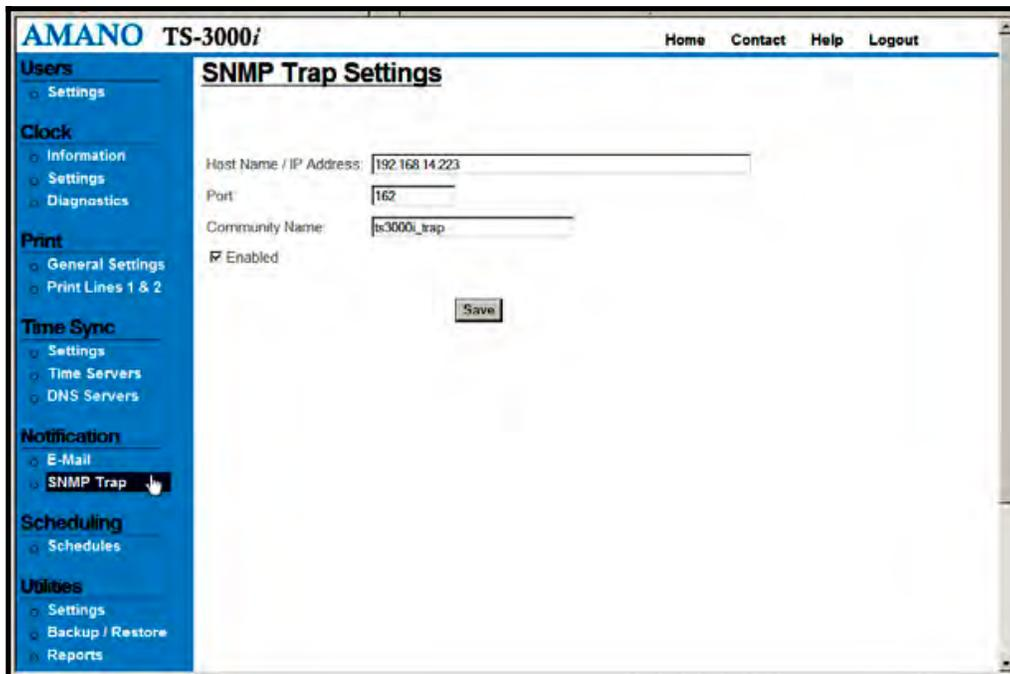

Figure 4-19: SNMP Trap Settings for E-mail Notification
Step 1. Click on the **SNMP Trap** link under **Notification**, and the **SNMP Trap Settings** screen will appear (see *Figure 4-19*).